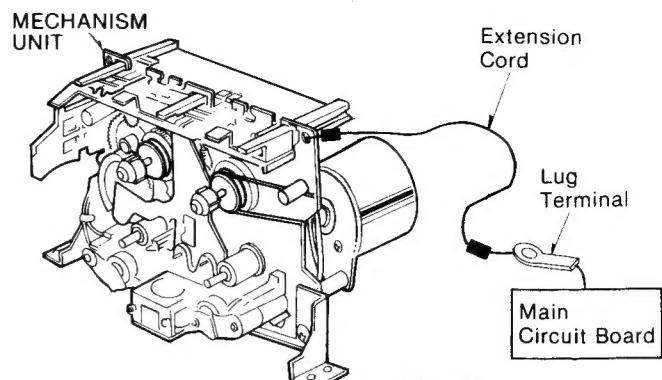

Fig. 10
- Without grounding, the mechanism does not operate properly. (Refer to Fig. 10).